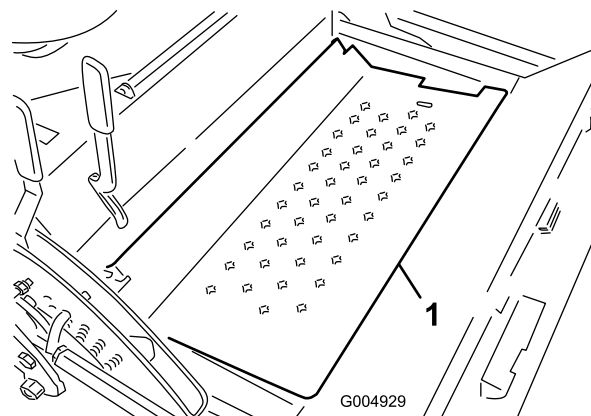

Figure 100
9. Pivot open the floor plate (Figure 100) and secure with prop rod.